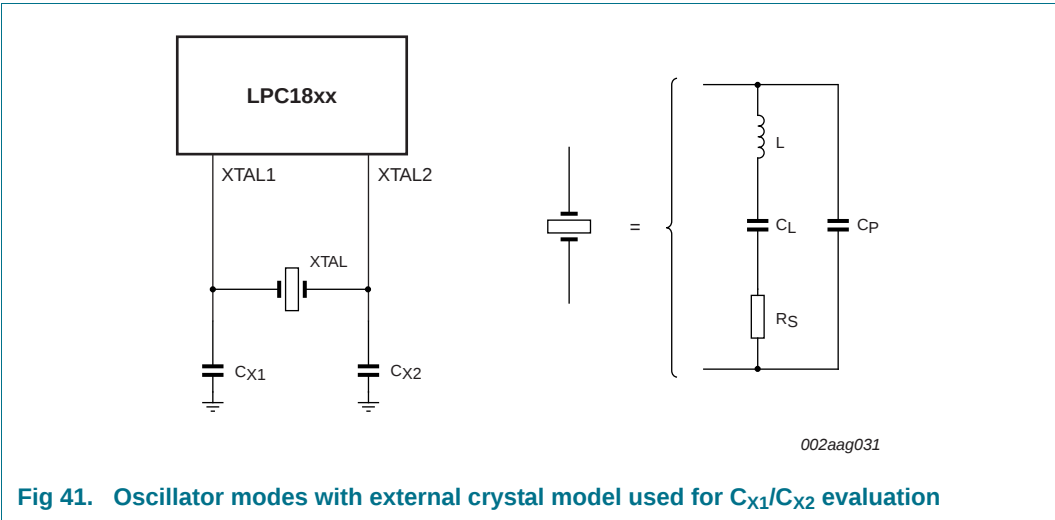

Fig 41. Oscillator modes with external crystal model used for C_{X1}/C_{X2} evaluation
- External components and models used in oscillation mode are shown in Figure 41, and in Table 40 and Table 41. Since the feedback resistance is integrated on chip, only a crystal and the capacitances C_{x1} and C_{x2} need to be connected externally in case of fundamental mode oscillation (L , C_L and R_s represent the fundamental frequency). Capacitance C_P in Figure 41 represents the parallel package capacitance and must not be larger than 7 pF. Parameters F_c , C_L , R_s and C_P are supplied by the crystal manufacturer.